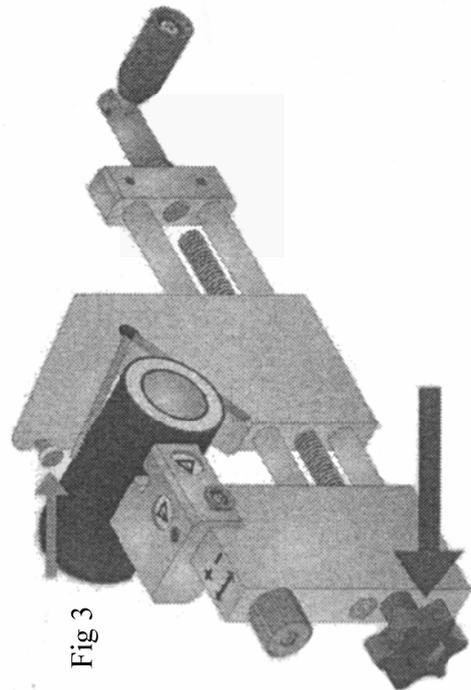

Fig 3
2.1.5 Using the correct depth guarded knife (0.4mm for Prysmian 11kV & 0.6mm for Tratos 11kV cables) and starting just above the circumferential termination point make longitudinal scores spaced approximately 120° along the core length to its end – Fig 3.
- 3.1.6 With the correct depth set, move the button marked by a blue arrow from the FRONT towards the SIDE position – the exact position of this button will depend upon the core diameter (larger sizes need a smaller button movement towards the side), as shown in Fig 3 of GR2D 6.28.3. Now rotate the whole tool using the rear handle – as the tool is rotated it will move progressively down the cable, peeling the screen. Do not apply excess pressure. The selected depth setting should produce a clean, smooth cut free of black semi-conducting material.
- 3.3 Slide the core through the hole in the braid and out the expanded end of the braid as I in Figure 3 of GR2D 6.29.2.